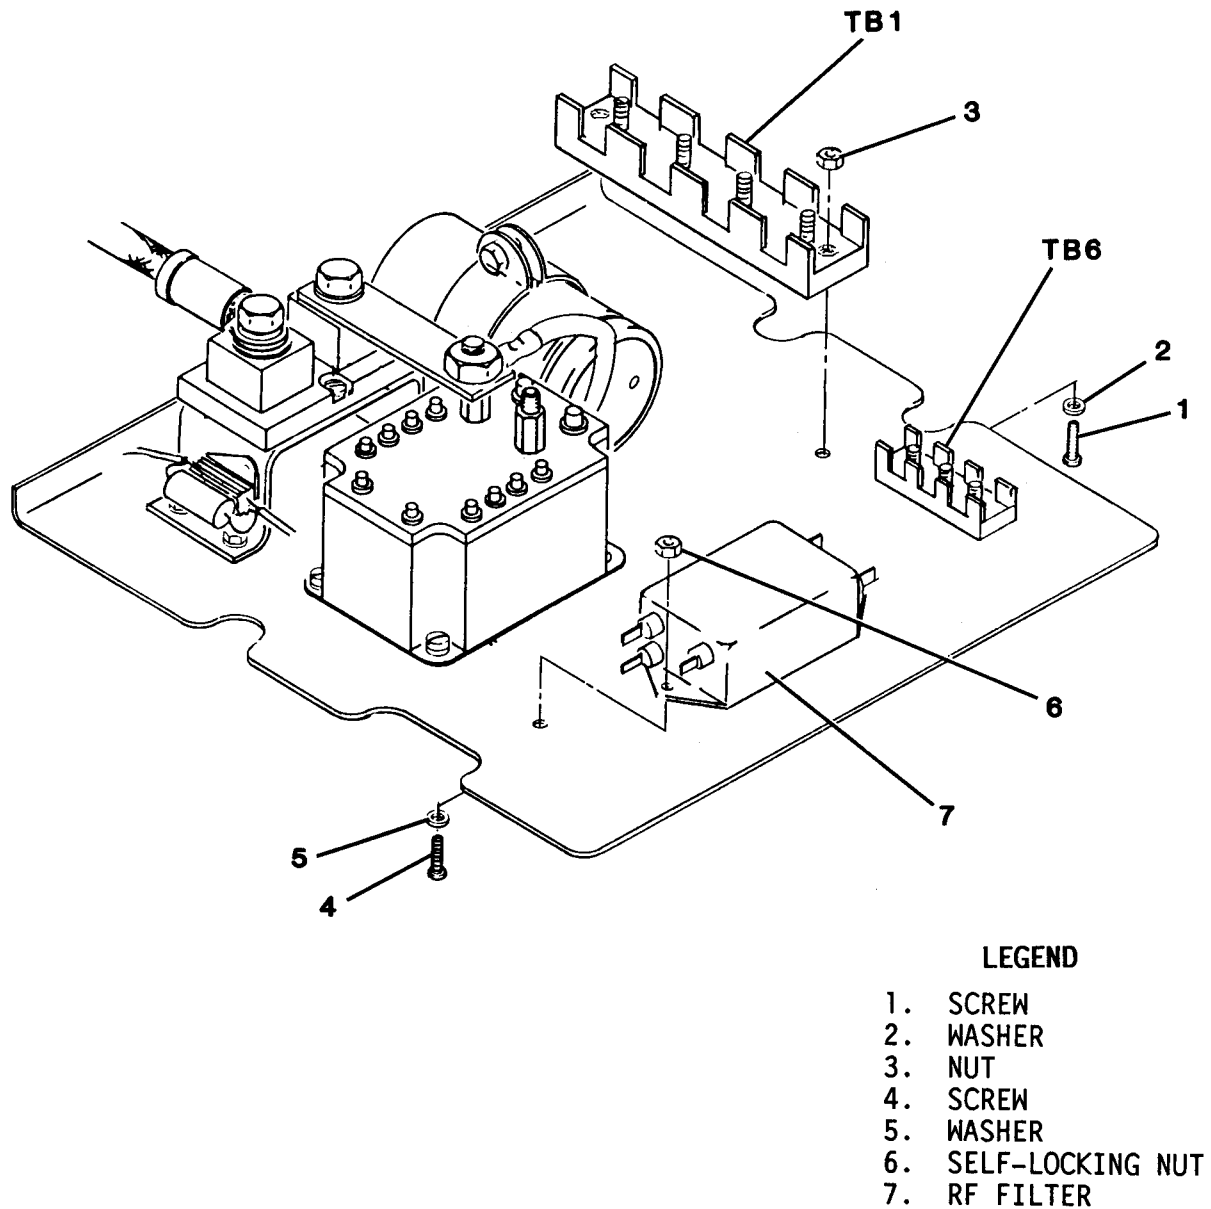

Figure 4-53. Terminal Board/RF Filter (FL1) Replacement
(1) Place current shunt (11) on shunt mounting bracket (20).
(2) Install screw (19) through shunt and shunt mounting bracket. Secure with washers (18) and self-locking nuts (17). Torque to 32-35 inch pounds (3.6-3.9 Nm).
(3) Place washer (16) on terminal A of current shunt. Rotate conductor bus (15) toward terminal A until mounting holes are aligned. Secure conductor bus to terminal A with lockwasher (14) and bolt (13).
(4) Tighten nut (12).
(5) Place washer (10) and wire P108A00 (9) on terminal B. Secure with lockwasher (6) and bolt (7).
(6) Connect wire U109A18 (1) to terminal D with lockwasher (3) and screw (2) and tighten. Remove tag.
(7) Connect wire U110A18 (4) with lockwasher (6) and screw (5) and tighten. Remove tag.
(8) Install component mounting panel (paragraph 4-82).
**4-85. TERMINAL BOARDS.** Maintenance of terminal boards TB1 and TB6 (figure 4-53) consists of inspection and replacement. Procedures are the same for both boards.
(1) Remove power cable from cable support.
(1) Remove component mounting panel (paragraph 4-82).
(2) Tag and disconnect wiring from terminal board to be replaced.
(3) Remove screws (1, figure 4-53), washers (2) and nuts (3) that secure terminal board to component mounting panel.
(1) Put terminal board in position and secure with screws (1), washers (2), and nuts (3). Torque on TB1 is 12-14 inch pounds (1.3-1.5 Nm). Torque on TB6 is 4.5-6 inch pounds (0.5-0.6 Nm).
(2) Connect wiring to terminal board. Remove tags.
(3) Install component mounting panel (paragraph 4-82).
**4-86. RF FILTER (FL1).** Maintenance of the RF filter (figure 4-53) is limited to replacement.